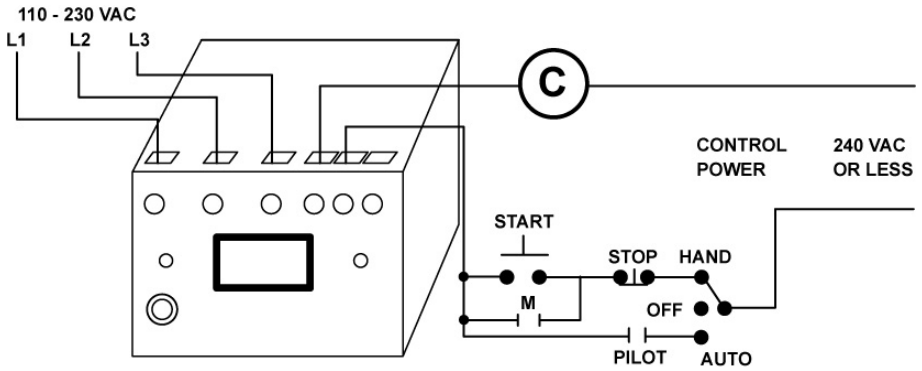

Figure 1: Typical Wiring Diagram
5. Connect the 3-phase (or single-phase) power from the secondary side of the potential transformer terminals using 12-18 AWG copper wire according to Figure 1 These should be tightened to 7 in.-lbs., max.
6. Connect the control circuit wires to the appropriate terminals. The relay is designed for fail-safe operation; the NO (normally open) contact should be in series with the coil on the contactor for motor control (see Figure 1). For alarm circuits, the NC (normally closed) contact is in series with the alarm circuitry.